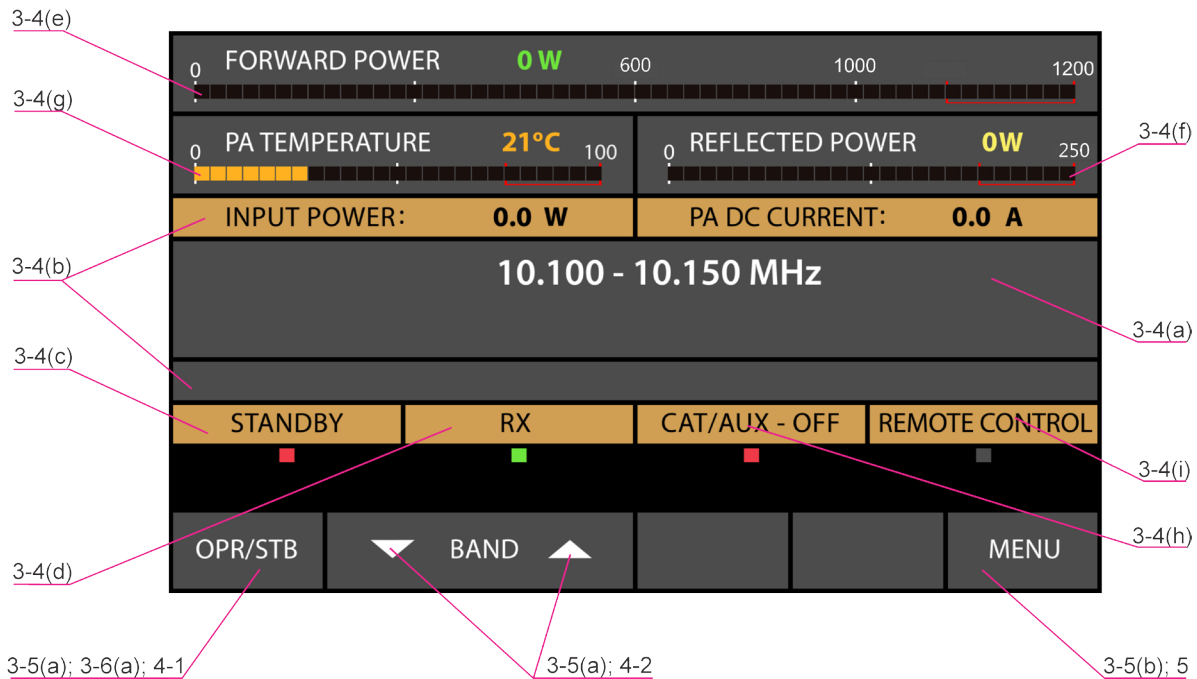

Fig. 3-2 Basic screen
In order start up the amplifier, push and hold the POWER button on the front panel for one or two seconds - about ten seconds later (boot sequence) the display will flash and show the **basic screen** with the amplifier information - Fig. 3-2.
- a) The OPR/STB and the BAND buttons are used for manual (local) control of the (Fig. 3-2):
- b) The right-most button MENU (Fig. 3-2) provides access to the amplifier's settings and service functions;
Turn the amplifier on, as described in Sections 3-1 to 3-4 (Fig. 3-2).
- either manually (locally) – by pressing the OPR/STB button – see the basic screen in Fig. 3-2, or automatically – when if the AUTO OPERATE option is activated – see S. 5-4(c).